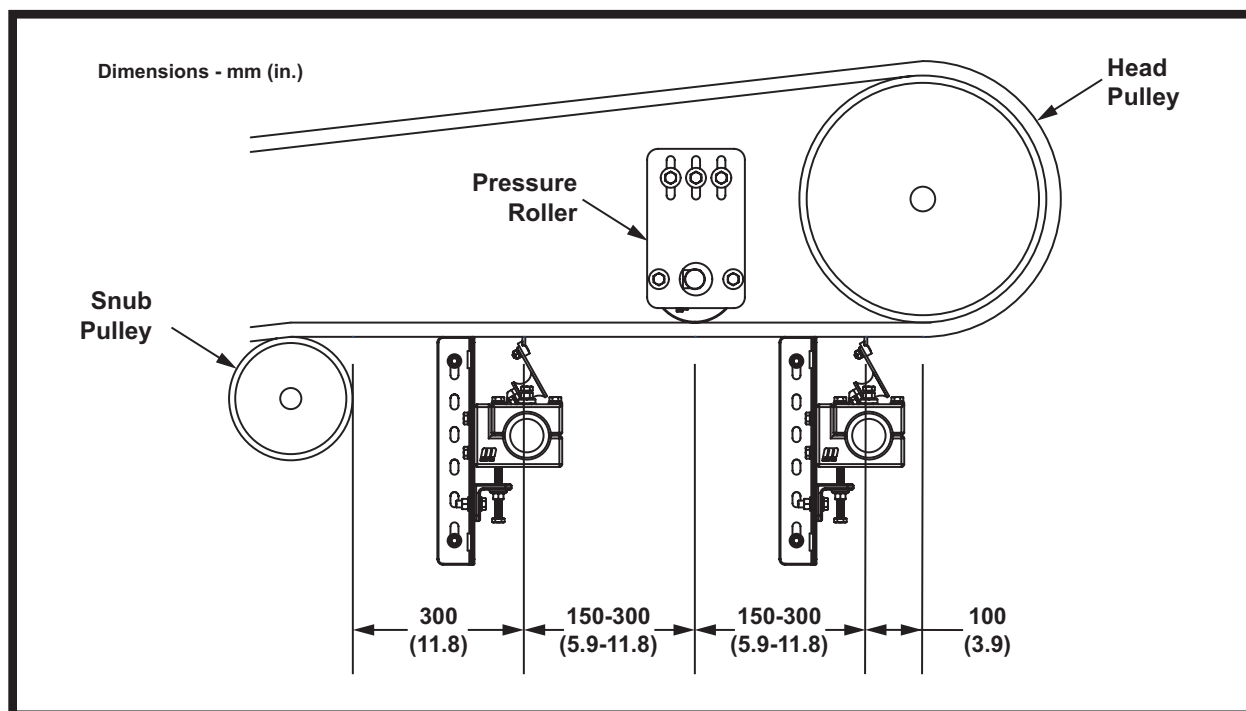

Figure 1. Martin® P2 Secondary Belt Cleaner HD Mainframe Location
Solid backing of the tip is essential to ensure proper operation and efficient cleaning. Install the cleaner adjacent to the head pulley or a flat pressure roller to obtain best cleaning results. (Refer to Figure 1.)
1. Inspect belt cleaner mounting area for possible obstructions that could interfere with proper mounting. (Refer to the Figure 1. for recommended dimensions.)